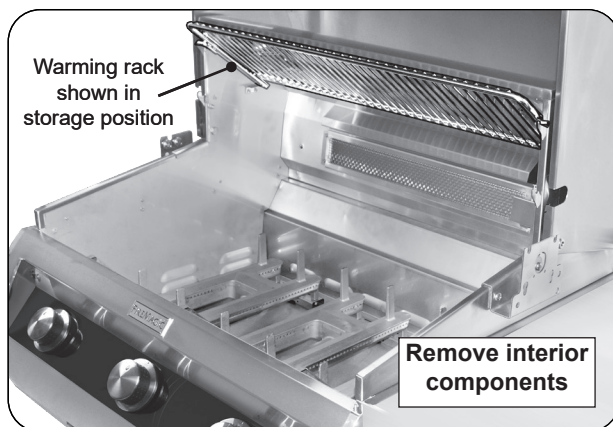

Fig. 39-1 Prepare grill for rotissing
1. Set the warming rack to storage position, remove the backburner cover and cooking grids (see Fig. 39-1).